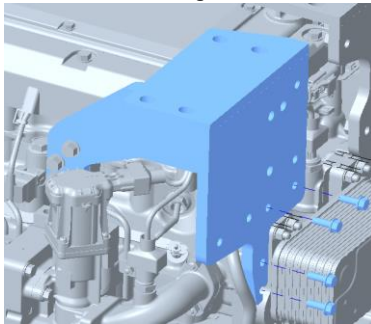

Figure 6
5. Assemble the ATD mount bracket (8) on the intake flywheel side and to the support bracket (9) using M10X40 (22), and M8X22 (19) bolts as shown in the figure 6.